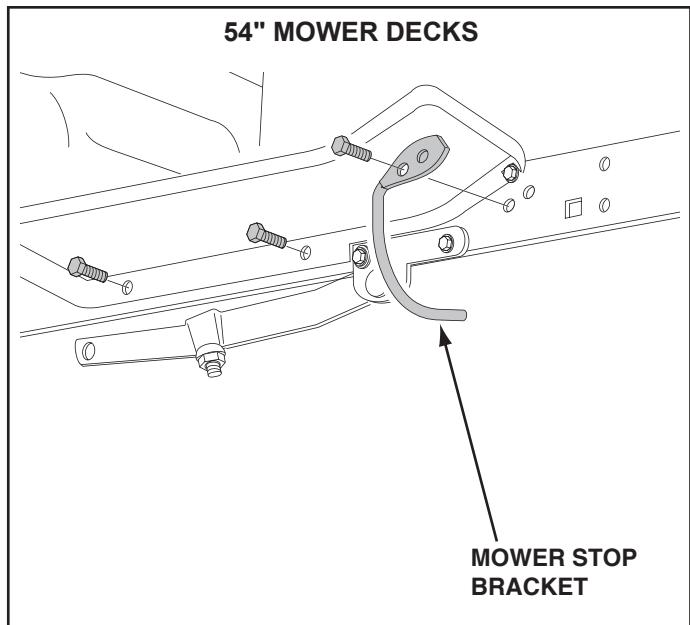

FIGURE 7
- Remove the two bolts from the bottom of the foot rests on both sides of the tractor frame. See figure 7.